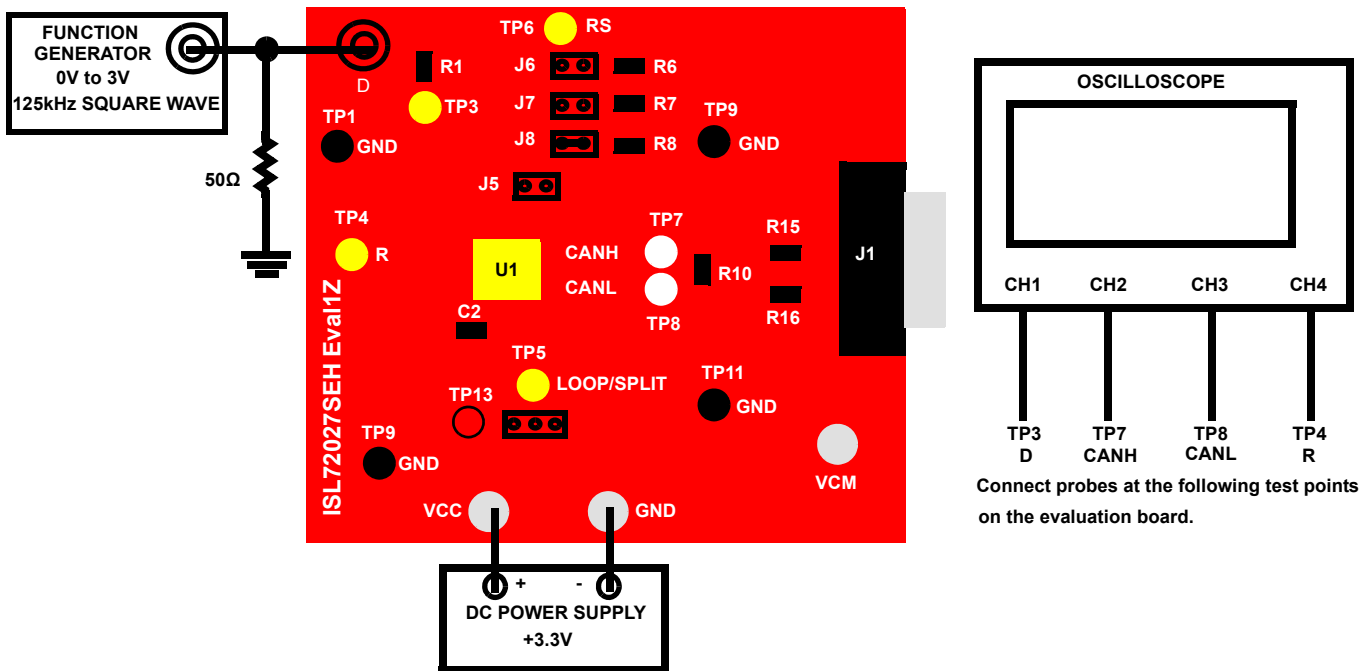

FIGURE 2. BASIC EVALUATION TEST SETUP BLOCK DIAGRAM (MEASURING PROPAGATION DELAY, SKEW AND RISE/FALL TIME)
Refer to Figure 2 on page 4.
1. Attach the main evaluation board to the DC power supply to the banana jacks labeled VCC and GND as shown in Figure 2. Positive terminal at VCC and negative terminal at GND. The supply should be capable of delivering 3.0V to 3.6V and 100mA of current. Set the supply voltage to 3.3V.
3. Connect the oscilloscope to the evaluation board as indicated in Figure 2.
4. Connect the function/signal generator at the BNC connector labeled D on the evaluation board as shown in Figure 2. Set the generator to output a 125kHz square wave, 0V to 3.3V amplitude, 50% duty cycle with a $t_{rise} = t_{fall} \leq 6ns$. Disable the generator output.